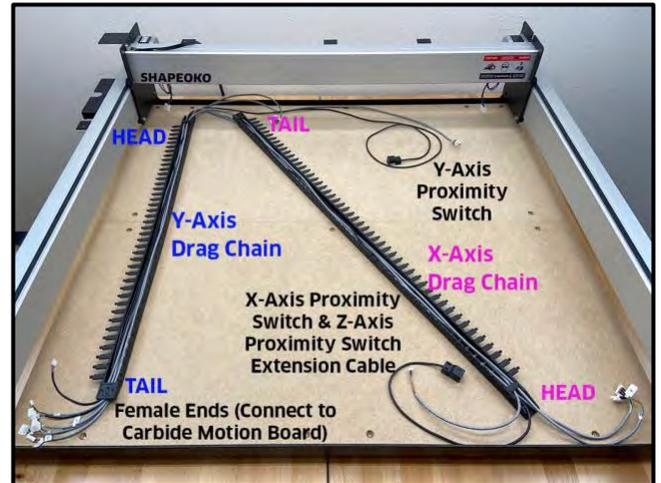

Figure 24
3. Insert the proximity switches and extension cable into the drag chain. See *Fig. 24*.